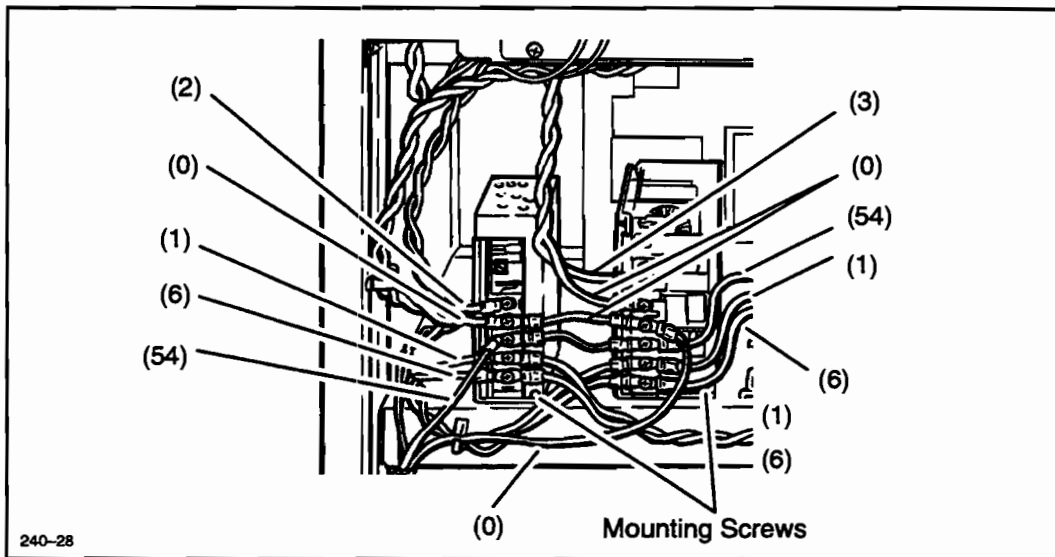

Figure 6-20. LPS1 and LPS2 Removal
5. Using a #2 Phillips screwdriver, remove the +5 V power supply mounting screw. See Figure 6-20.
4. Disconnect the wires from the terminal strip. See Figure 6-20.